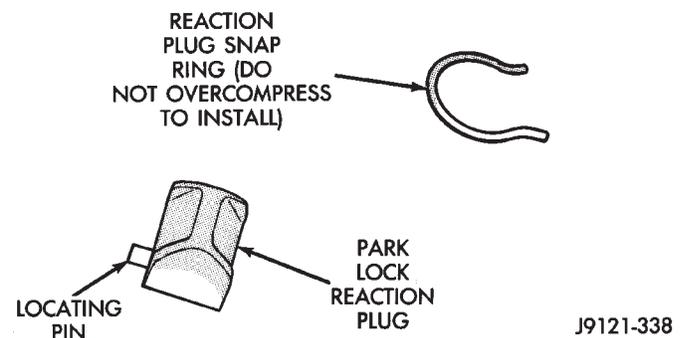

Fig. 253 Reaction Plug Locating Pin And Snap-Ring
(1) Position park pawl and spring in case and install park pawl shaft. Verify that end of spring with 90° bend is hooked to pawl and straight end of spring is seated against case.
(2) Install pawl shaft retaining bolt. Tighten bolt to 27 N·m (20 ft. lbs.) torque.
(3) Install park lock reaction plug. **Note that plug has locating pin at rear (Fig. 253). Be sure pin is seated in hole in case before installing snap ring.**